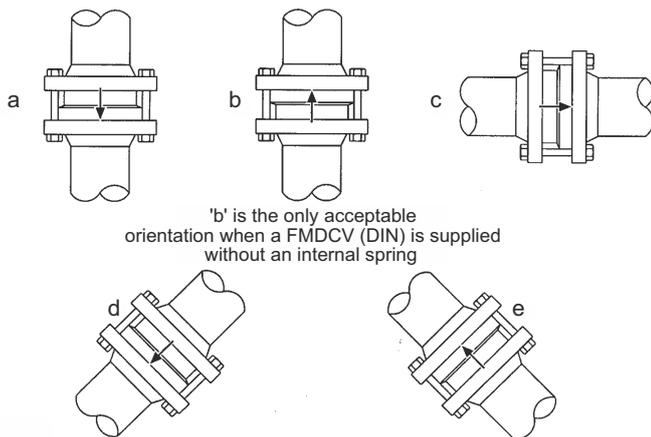

Fig. 2: FMDCV (DIN) & FMDCV (ANSI) any orientation installation
- ☑ Spring loaded check valves simply fit between two pipe flanges as shown in fig. 2. Standard gaskets are used either side of the valve together with longer bolts or studs.